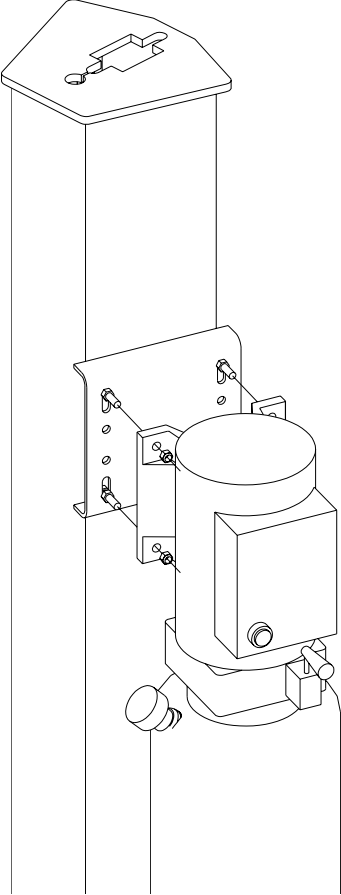

Figure 8
20. Mount the power unit onto the four bolts with 5/16 nylon insert nuts. See Figure 8.